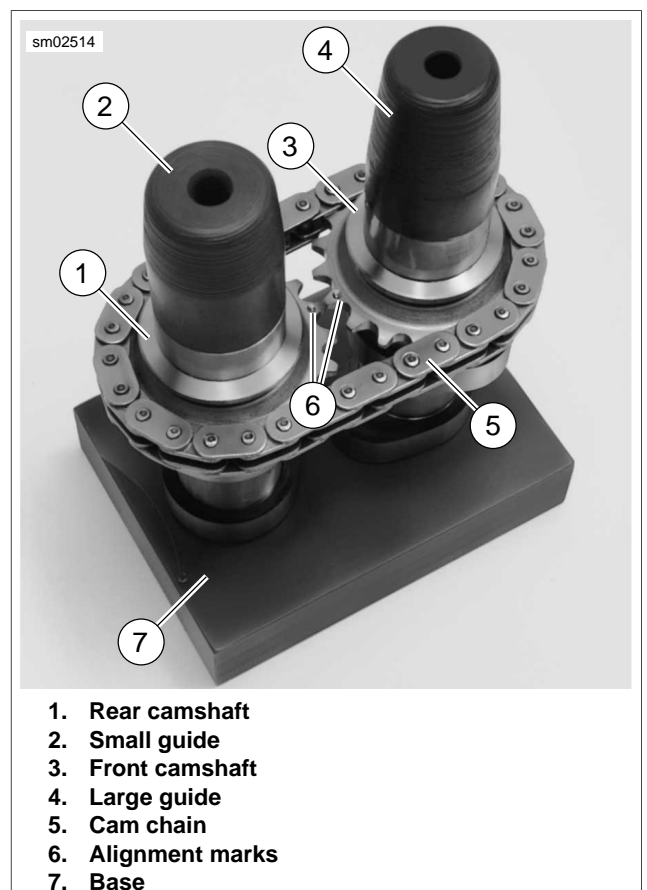

Figure 3-116. Camshaft Assembly Tool
3. See Figure 3-116. Orient the camshafts so that they are positioned on opposite ends of the chain, and then verify that the alignment marks (6) are still in alignment.